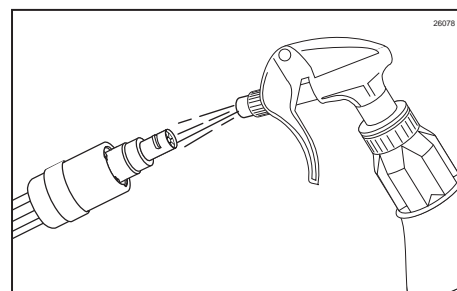

Figure 36
8. Spray the Syrup Line Manifold opening with approved sanitizer solution. Allow it to sanitize for at least 1 minute. (See Figure 36.)